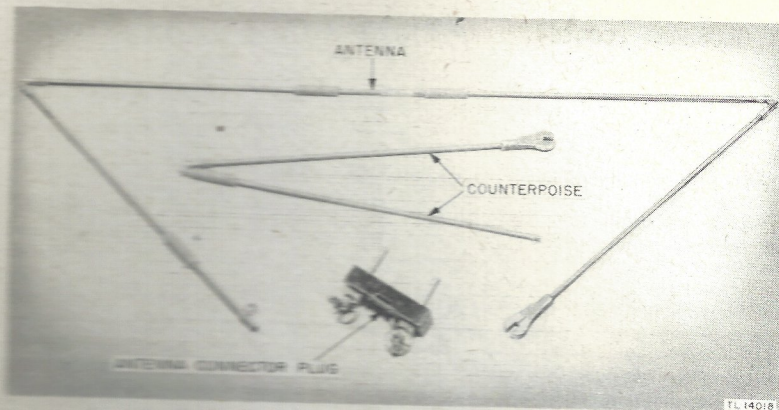
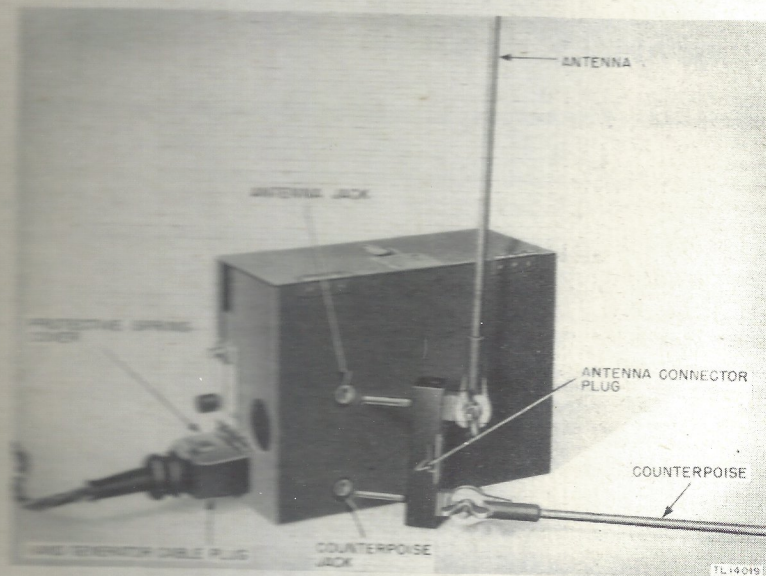

Figure 11. Antenna, counterpoise, and antenna connector plug, disassembled.
Figure 12. Japanese Radio Set Model 94 Mark 6, rear view, installation of generator cable plug and antenna connector plug.
b. Antenna. A disassembled view of the antenna, counterpoise, and antenna connector plug is shown in figure 11. Assemble the folded sections of the antenna and counterpoise. Clamp the spade end of the antenna to the  (antenna) terminal of the antenna connector plug. Clamp the spade end of the counterpoise to the  (counterpoise) terminal of the antenna connector plug. See figure 12. The wingnut terminals are grooved in four relative positions
c. Power Supply. (1) For operation of the set with hand generator and battery pack, connect power supply cording as shown in figure 14. Open the protective metal flap covering the generator cable socket in the set (fig. 12) and insert the generator cable plug. Plug the other end of the generator cable into the generator. Plug the two battery pack cable sockets into the battery pack cable plug. This